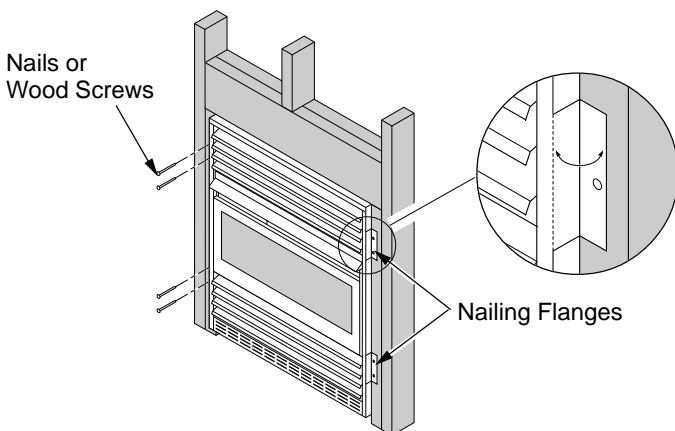

Figure 11 - Attaching Fireplace to Wall Studs
7. Bend four nailing flanges on outer casing with pliers (see Figure 11, page 10).